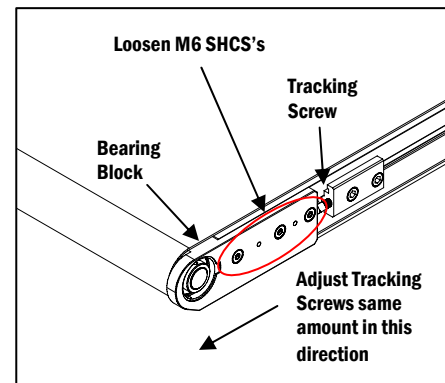

Figure 2
② Add tension to the Belt at the Drive End
a. Loosen (do not remove) the six M6 Driver Assembly Screws in the Bearing Blocks (three on each side), about one-half turn (**Figure 2**).